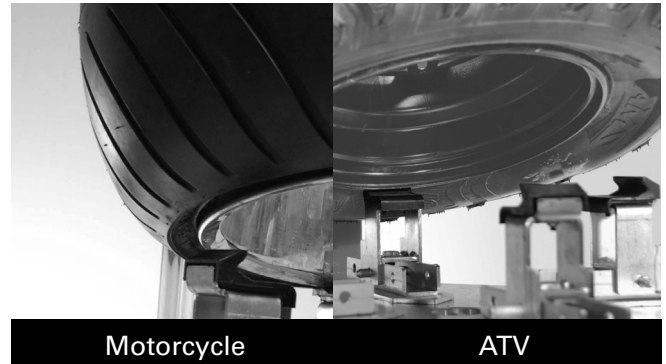

Figure 5 - Place Tire/Wheel Assembly on Table Top
7. Using the tabletop locking knob (see letter G, pages iv and v), lock the tabletop in place. This will make mounting the tire/wheel assembly easier and more positive. The tabletop has locking holes 90-degrees apart that the knob engages; it is not friction lock. Place tire/wheel assembly on table top with mounting side up (figure 5). Rotate the clamping screw clockwise to move the clamps inward or crank counterclockwise to move the clamps outward. Clamp motorcycle and ATV wheels from the outside (clamps push inward against the outside rim edge). Place rim flange into rear clamp and slowly move the other